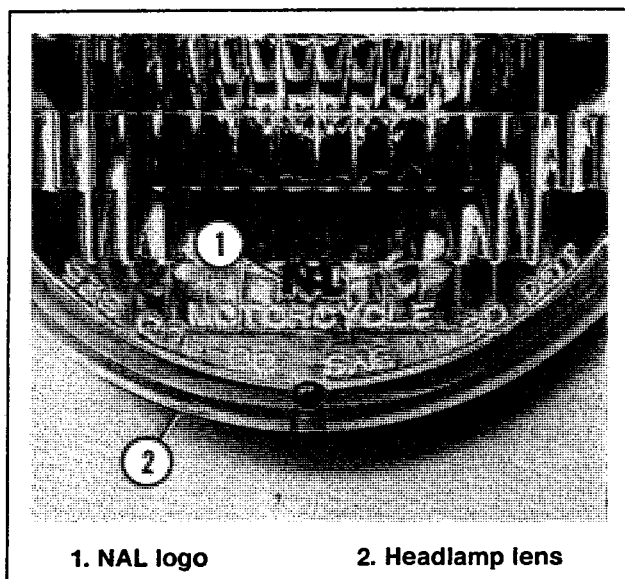

Figure 1. Identification of NAL Headlamp Assembly
See Figure 1. You may identify the new headlamp assembly by the "NAL" logo (1) molded into the bottom of the headlamp lens (2).